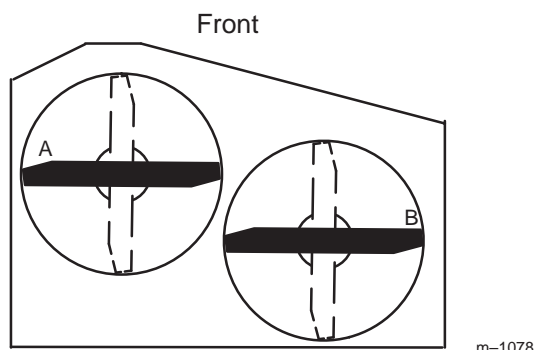
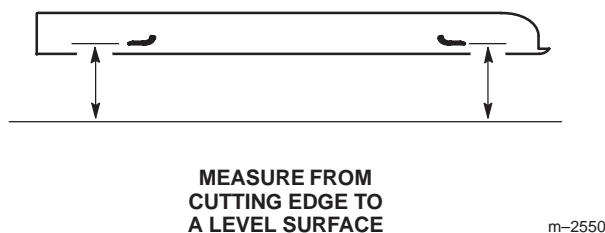

Figure 67
Figure 68
2. Position the blades side-to-side (Fig. 67). Measure at **A** and **B** locations (Fig. 67) from a level surface to the cutting edge of blade tips (Fig. 68).